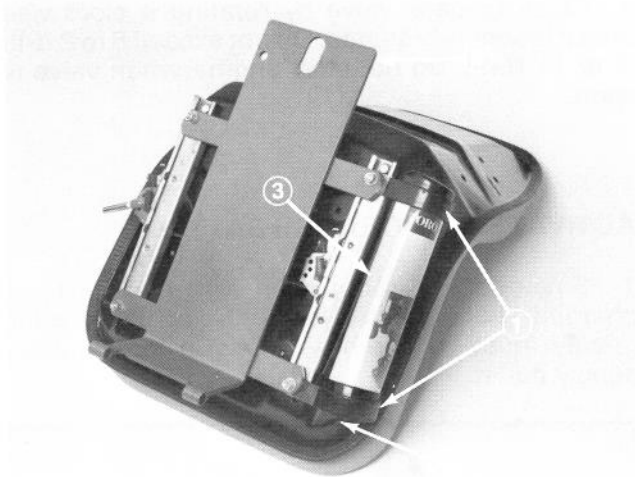
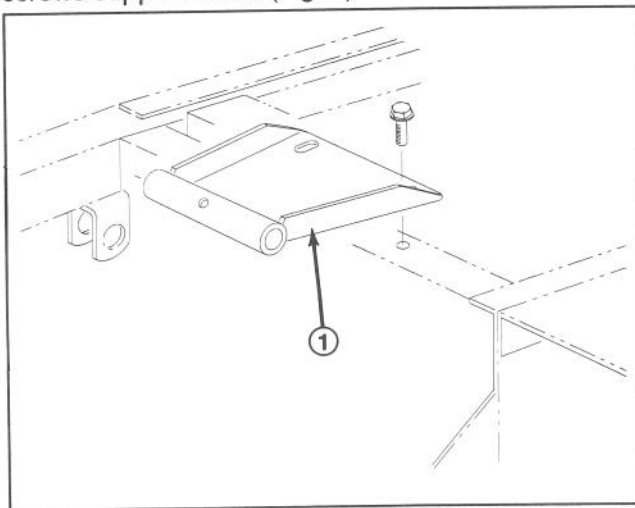

Figure 7
Figure 8
- (Model 30739) Reinstall sealing plate to frame, above fuel tank with flange screw, truss head screw, (2) locknuts and spacer previously removed.
- Loosely secure (2) R-clamps to right side of seat bottom with (2) capscrews supplied in kit (Fig. 8). Install manual tube into R-clamps and tighten capscrews (Fig. 7).
11. Mount seat pivot bracket to frame with (2) flange screws supplied in kit (Fig. 8)
13. Mount seat pivot bracket to frame with (2) flange screws supplied in kit (Fig. 8)